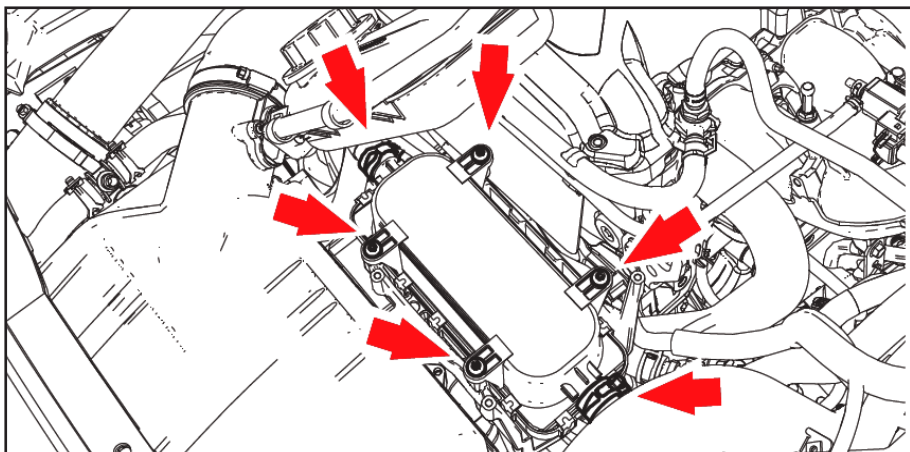

fig.5
5. Release battery coolant reservoir from mounting and tie aside for access (fig.5)